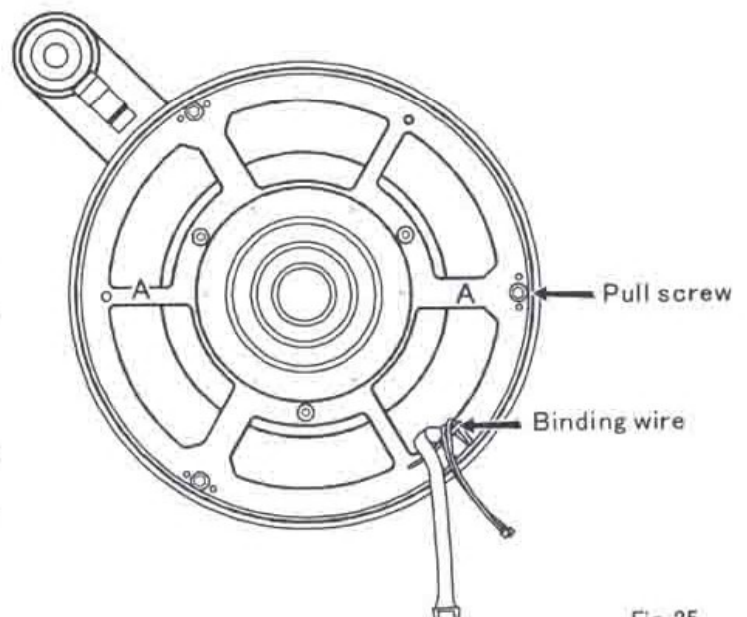

Fig. 25
2. Cable and wiring are attached on the cell by binding wire. Remove this binding wire or cut it out to release the cell from the bottom ring. Refer to the Fig. 25. Do not lift up the cell with cable and wiring. Otherwise the primary might touch the inside and possibly be damaged.
4. Hold the rib (A) and lift up the cell slowly with care not touching it on the inside. Refer to the Fig. 25.